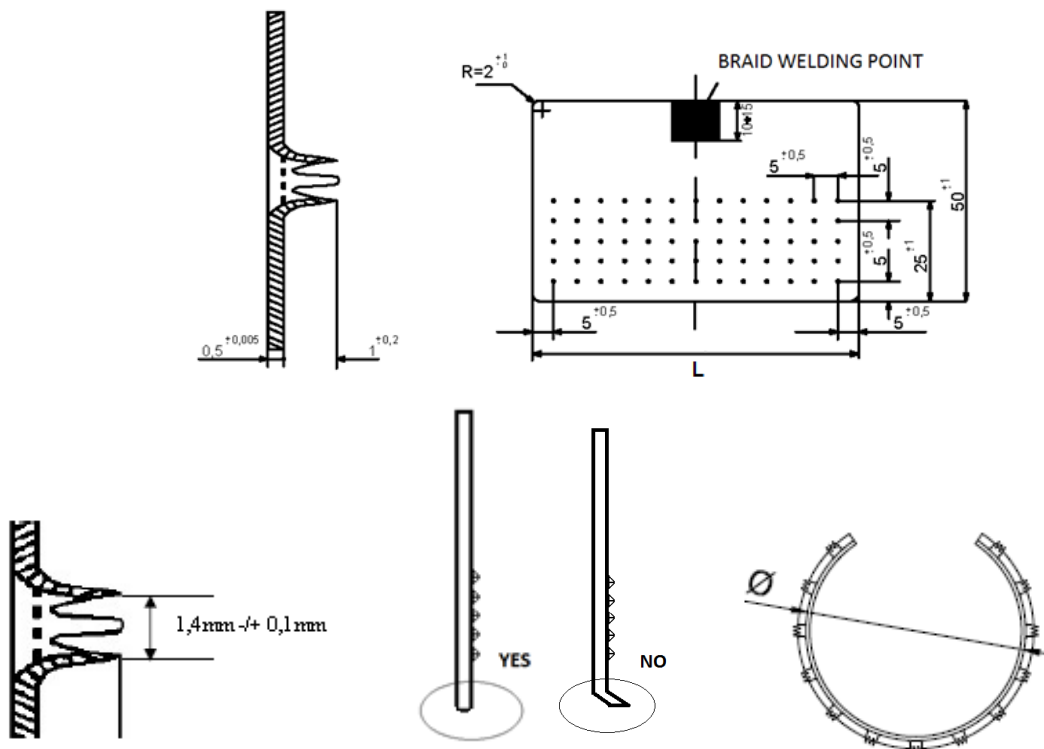

Figure 6 – Detail of rectangular plate for aluminum tape screen connection
1. Plate of tin-plated hard copper with a tin coating having minimum thickness of 0,5 μm . The plate shall be as shown in Figure 6 and shall be bent on a cylinder of diameter 25 \pm 2 mm; the convex side of the plate shall include 65 asperities, arranged as shown in the Figure 6. These asperities shall have a particular shape (see example in Figure 6) in order to allow piercing the aluminum tape, to obtain a satisfactory contact with the screen, and to partly penetrate the outer thermoplastic sheath of the cable, to prevent movement or removal of the device. The edge and the internal side of the plate shall be free of sharp or rough parts, in particular in the lower side in contact with the semiconductive layer of the cable. The lower side going under the aluminum tape shall have no protruding edge (an example is shown in Figure 6) but a small rounded edge lower than the asperities.
2. A tin coated copper braid with a minimum length of 0,6 m. One end of the braid shall be welded to the rectangular plate described above at the position shown in Figure 6; the other end shall be connected to the lug described in 7.5.2.4.a). The section of the tin copper braid shall be compatible with the sections prescribed in Table 7.